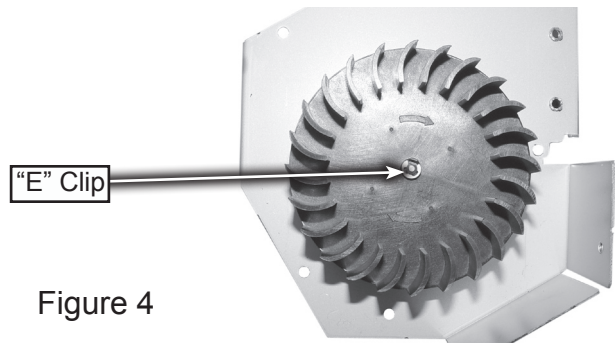

Figure 4
9. Remove the "E" clip securing the fan blade, see figure 4.